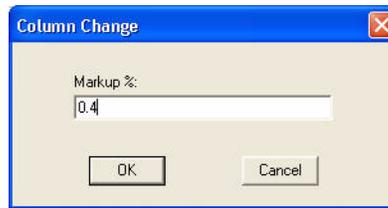

Figure 5-17 The Column Change dialog box.
8. Enter 0.40 in the Markup % box, as in Figure 5-17, and click OK.